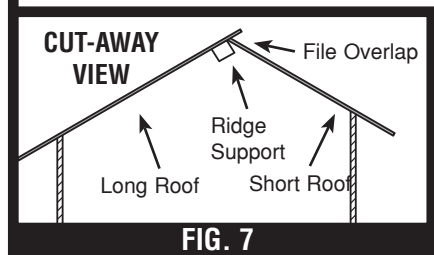

FIG. 7
10. Using a file (or sandpaper) remove overlap of roof until an even peak is formed (FIG. 7).